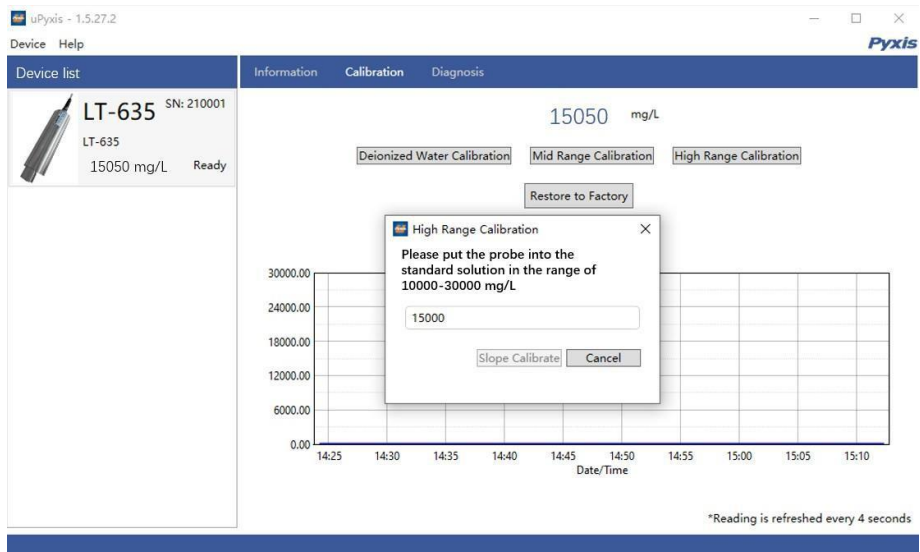

Figure 24 - High-Range Calibration
**High-Range Calibration Process** - If the high range calibration is not required (>10,000mg/L), the user does not need to calibrate the high range. To continue with the high range calibration after completing Mid-Range calibration, remove and insert the LT-635 sensor into a clean and dry beaker and inject the High Point calibration solution. **\*NOTE\*** *The high point calibration solution can be process water of the application itself, with a verified Total Suspended Solids (TSS) value in the range of 10,000 to 30,000 mg/L. The recommended method of TSS verification for the calibration solution being used is Gravimetric Total Suspended Solids determination.* Wait until the reading stabilizes and then click the High Point Calibration button to calibrate the highpoint, as in Figure 24. If the calibration is successful, the interface will return a message "Calibration Succeeded". If the calibration has failed, the interface will return a message "Calibration Failed" and the user must repeat the process until calibration success is achieved.